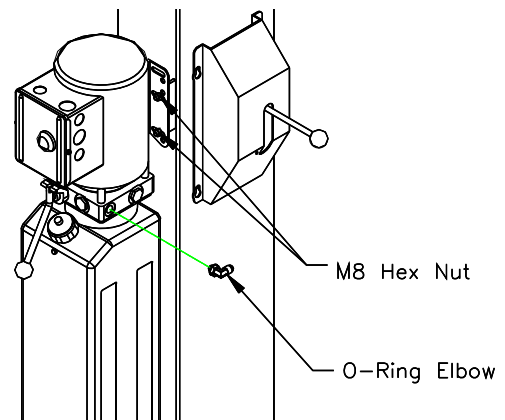

Fig 4 – Power Unit Mounting
- 19) Mount Power Unit to power column as shown in **Fig 4**. The mounting hardware, (4) M8 hex nuts, are pre-installed on power unit mounting bracket.